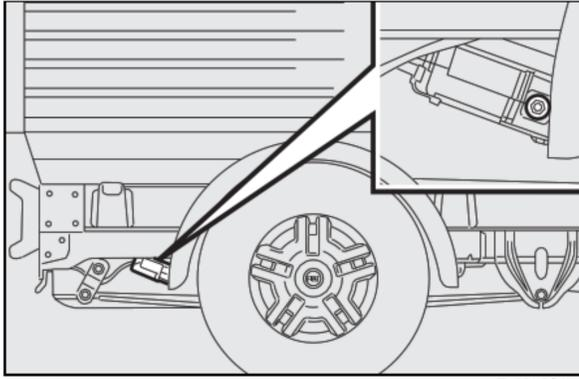

fig. 3
- for chassis-cabs, from the rear right side of the vehicle **fig. 3** use the wrench to operate the wheel-restraining device screw,